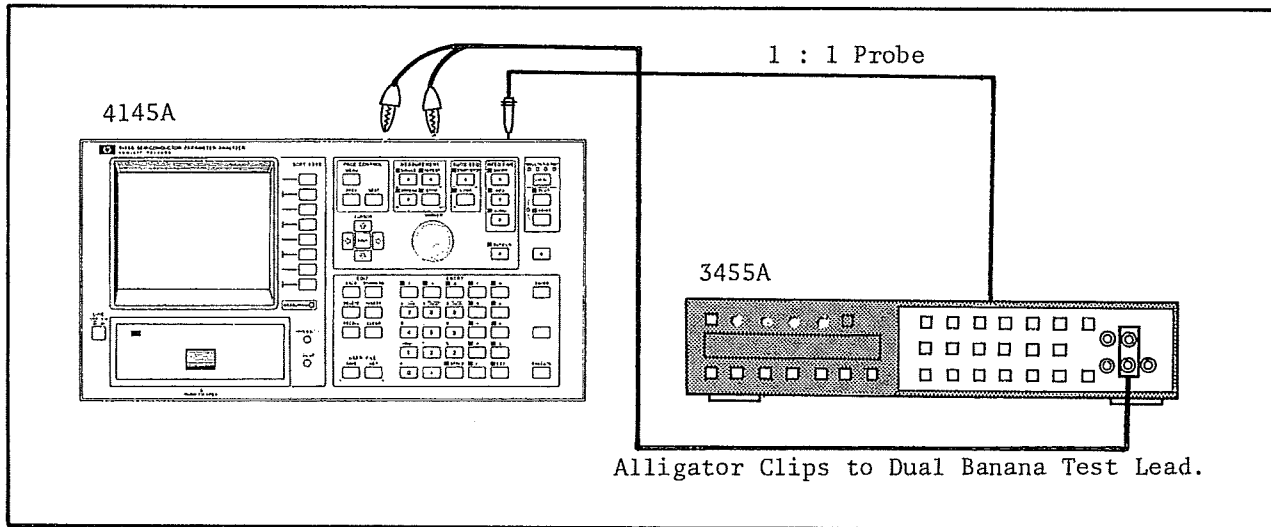

Figure 5-14. D-A Converter Gain Adjustment Setup.
7. Adjust A4C1 until the height of the pulse at A4TP2 is minimized (less than 0.5mV) as shown in Figure 5-14.